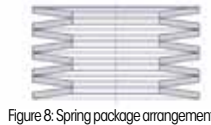

Figure 8: Spring package arrangement
**Note:** The standard spring package is built in a series and can cause deviations in the spring force with a different arrangement (Fig. 8). In case of applications above 400 N, additional spring packages are available on request.